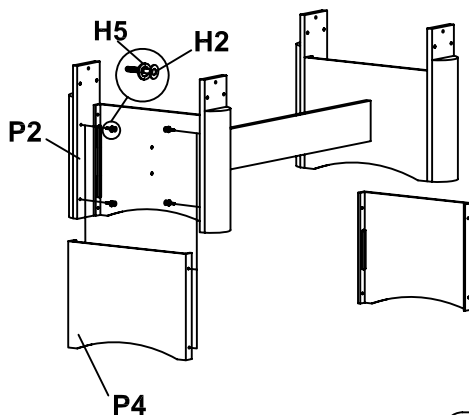

Figure 4
- 4: Attach the leg panels **P4** to the exposed side of the legs **P2** using 1/4 bolts **H2** and flat washers **H5**, as shown in **FIGURE 4**.